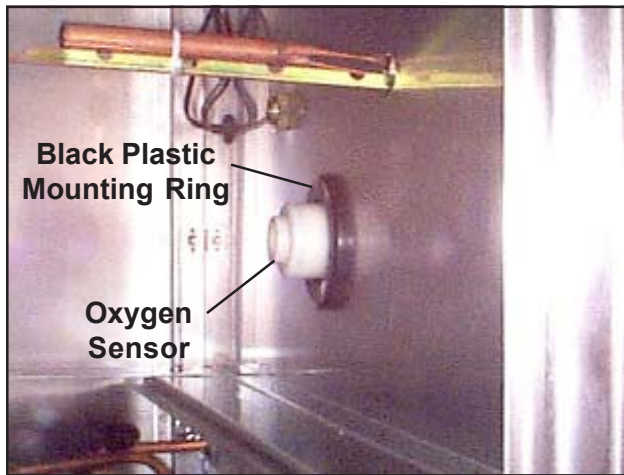

Figure 99. New Style Oxygen Sensor Mount
3. Inside the filter/fans compartment, notice the installation of the oxygen sensor (Figure 99).